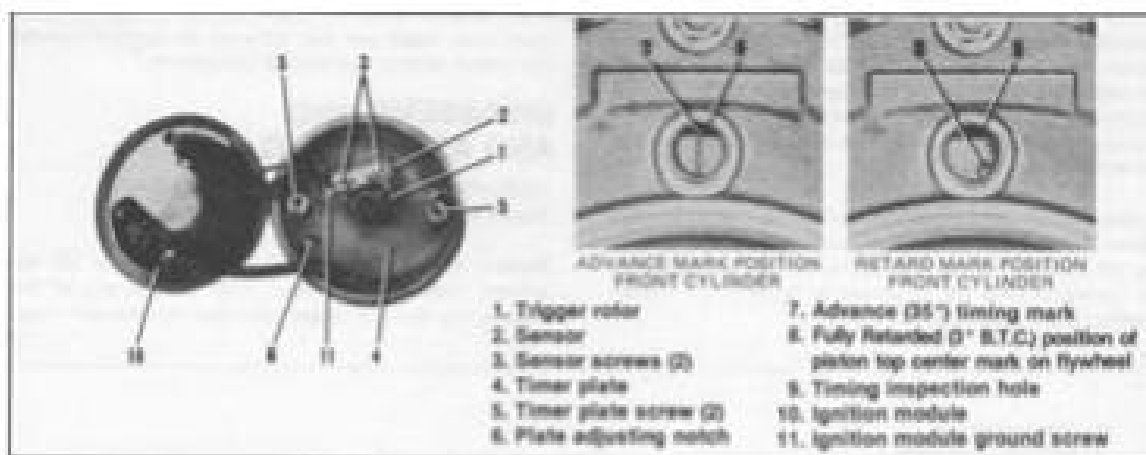

Figure 5-19. Ignition Timer and Flywheel Timing Marks
ADJUSTING SENSOR AIR GAP (See Figure 5-19)
CHECKING ADVANCE TIMING WITH STROBE TIMING LIGHT (Figure 5-19)
SETTING RETARDED TIMING WITH CIRCUIT TESTER (See Figure 5-19)
Loosen timer plate screws (5) just enough to shift timer plate (4) using a screwdriver in notch (6), so light goes on or off when piston top dead center timing mark is aligned in inspection hole (9) as shown in figure 5-19. Tighten screws (5) to 12 to 16 in.-lbs. torque.